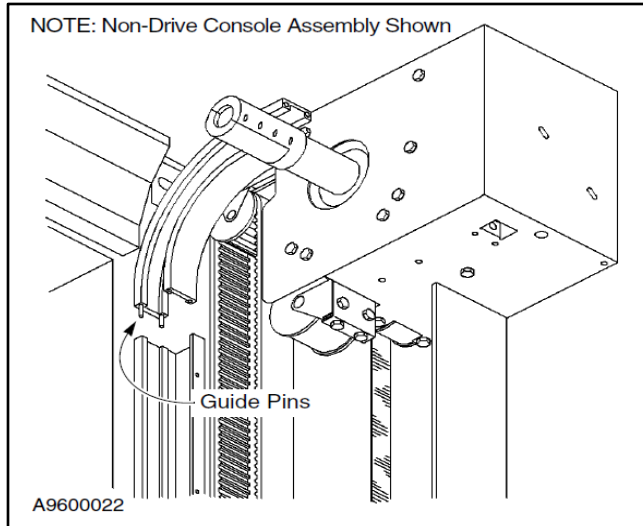

**Figure 26**
6. Remove the track cover. Loosen the hardware to the retaining clips and lower the track assembly. (See Figure 26.)
*NOTE: Depending on height of the door, the track cover may be a one or two piece unit. If it is a two piece unit, the top half of the track cover should be removed as shown in Figure 26.*